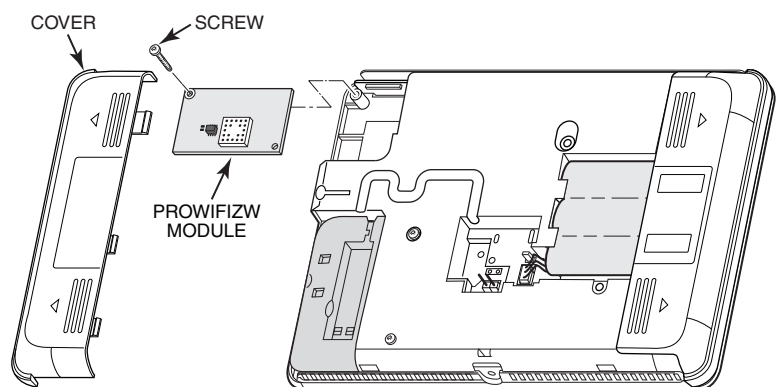

Figure 2. Installing the PROWIFIZW Module
8. Insert the PROWIFIZW module into the slot on the left side of the control as shown in Figure 2 and ensure the receptacle is securely seated on the control's edge connector.